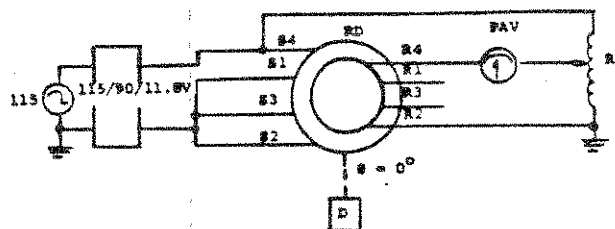

Figure 7-25. Transformation Ratio Test (RD/RC)
- a. Set up equipment as shown in figure 7-25.